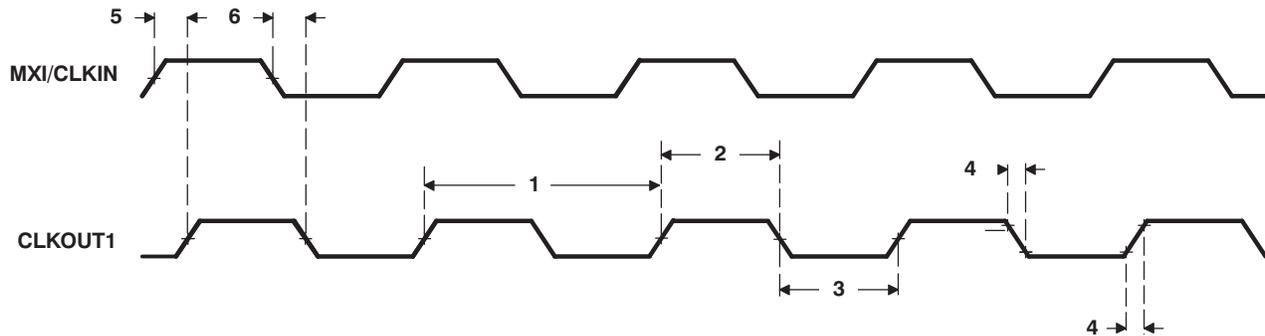

Figure 5-9. CLKOUT1 Timing
Table 5-7. Switching Characteristics Over Recommended Operating Conditions for CLKOUT1^{(1) (2)} (see Figure 5-9)